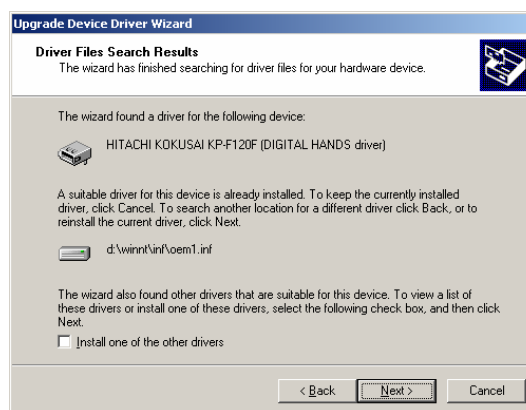

fig 1
- ⑤ Automatically it shows the window like "fig1". After a while it is connected KP-F120F IEEE1394Digital Camera, automatically it shows the window like "fig1". Check "Search for a suitable driver for my device [recommended]" and the click "Next" button.